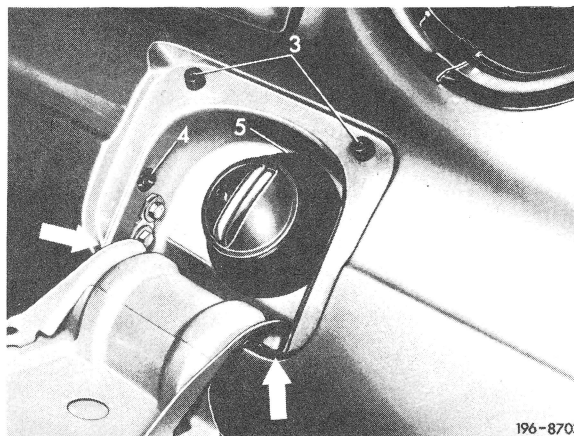

Fig. 3
4 Seal stop buffer (3) (Fig. 3).
5 Check socket (4) for central interlock or blind socket and seal, if required (Fig. 3).
17 Check PVC seam seal on tank recess at rear fender (arrows in Fig. 3) and touch-up, if required. Remove tank flap for this purpose (refer to 75.3-300).